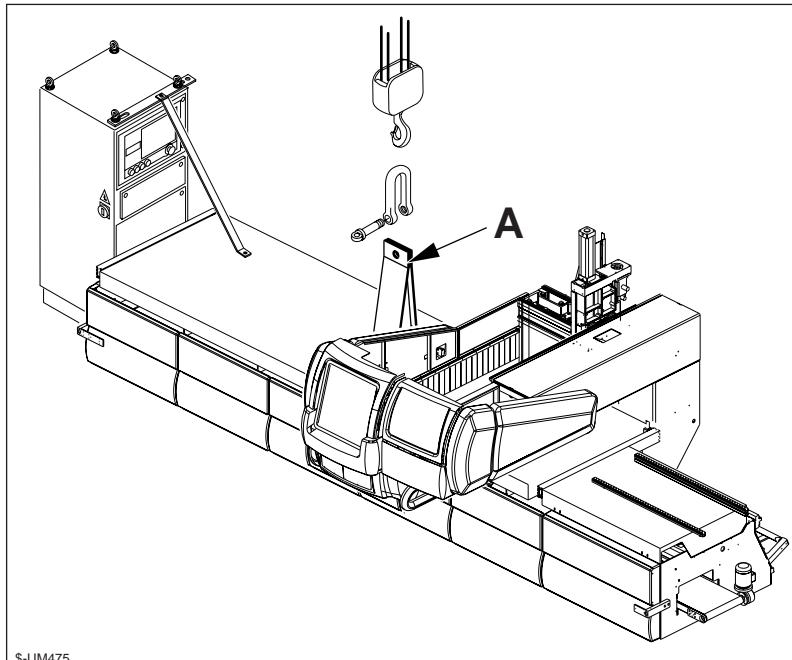

Fig. 2.2
- Lift the machine only by the appropriate lifting brackets A (Fig.2.2) .